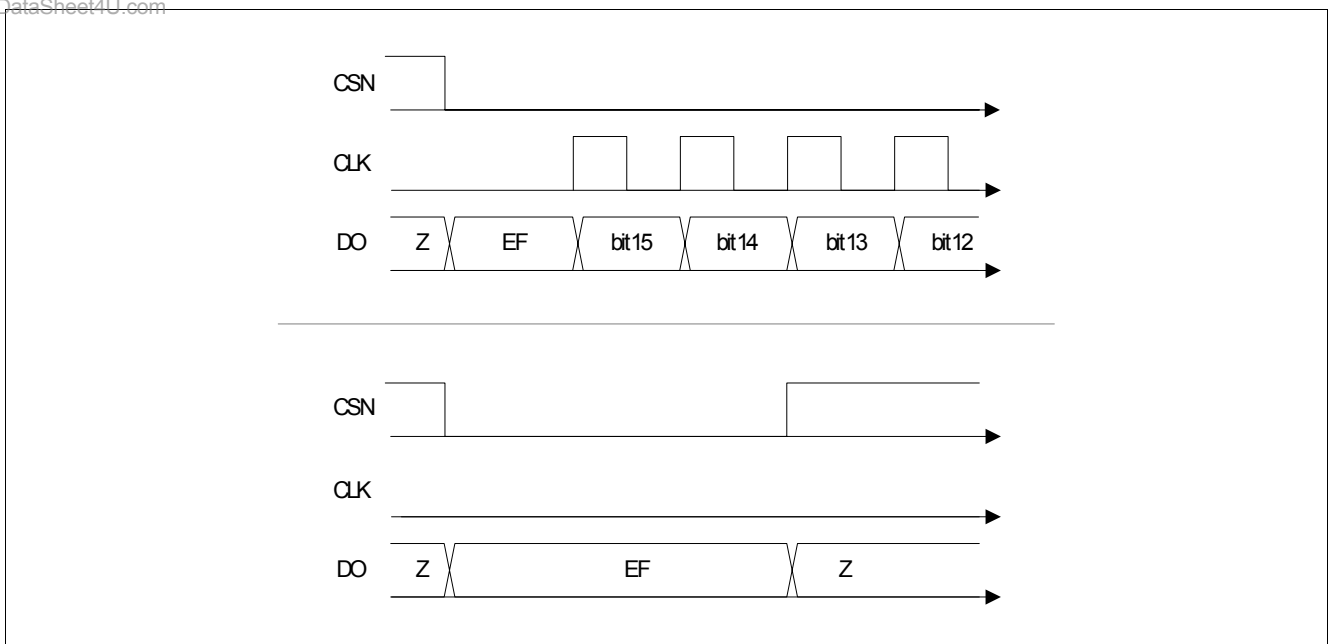

Figure 6 Error Flag Transmission on DO during Standard SPI Transmission (top), or without Additional SPI Transmission, CLK Low (bottom)
In addition to the 16 bits transferred from the TLE 8203E to the SPI master, an additional Error Flag (EF) is transmitted at the DO pin. The EF status is shown on the DO pin after CSN H → L, before the first rising edge at CLK, as shown in Figure 6.